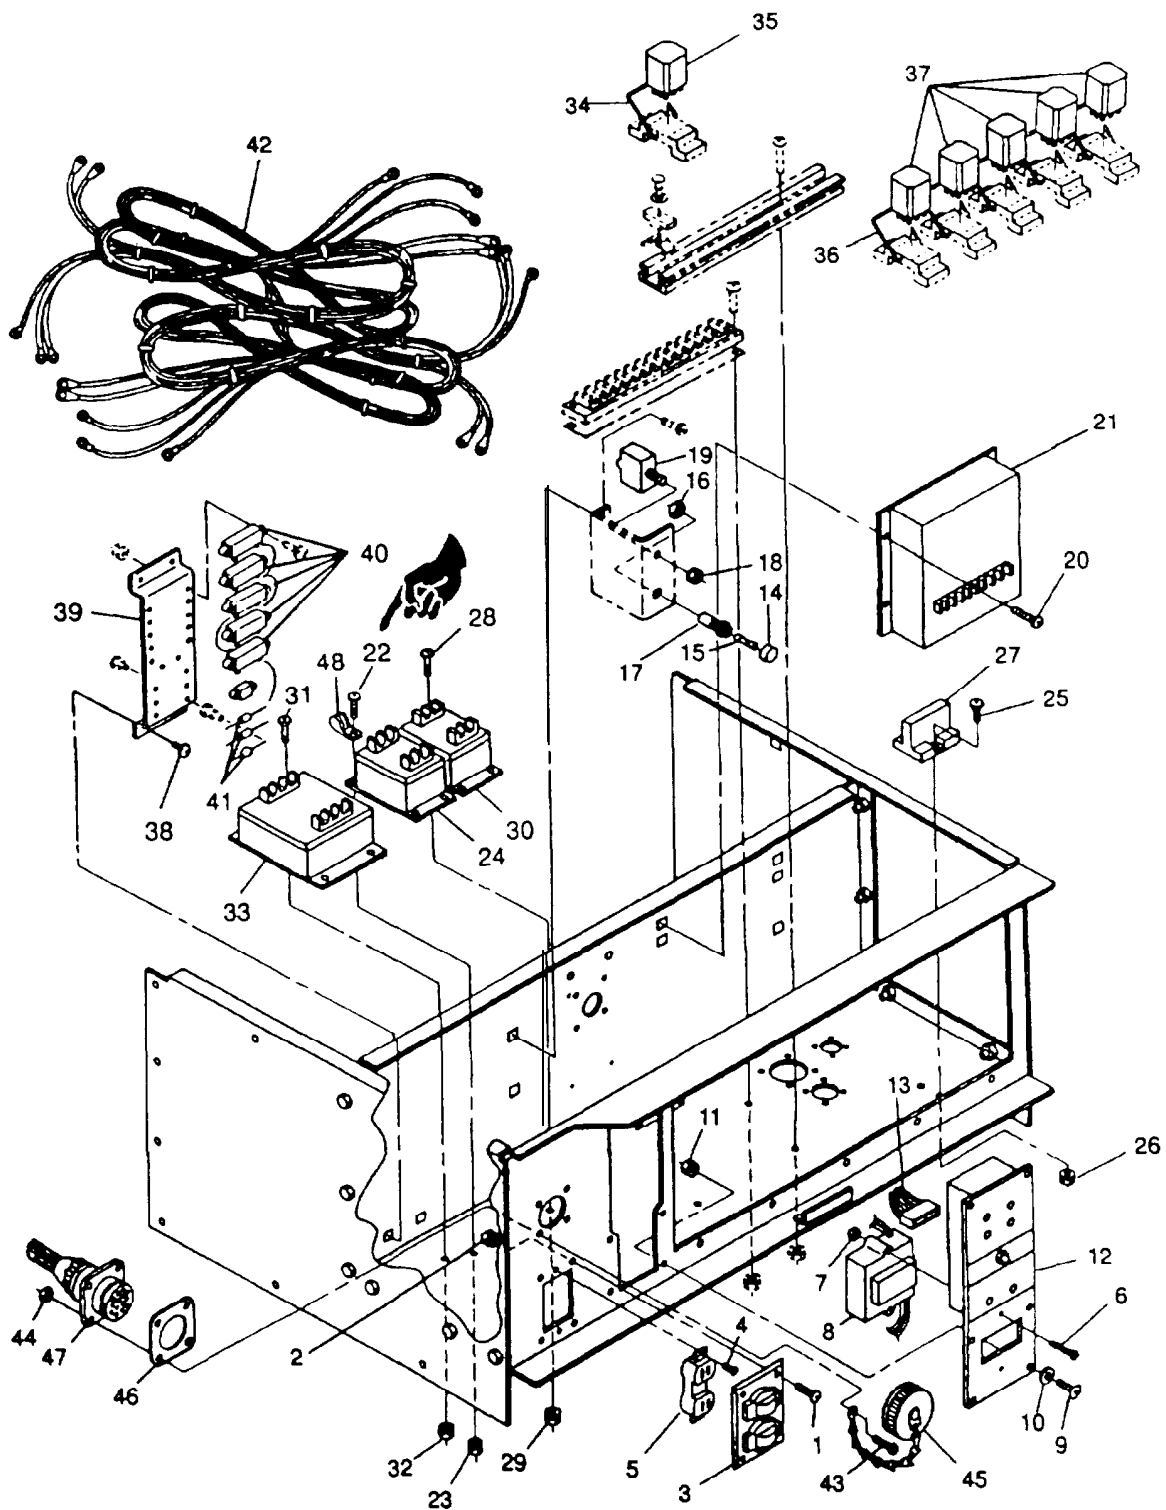

FIGURE 2-11. Control Box Components
- d. Tag and remove frequency transducer (24, FIGURE 2-11) electrical leads.
- e. Open load terminal board access door and remove screws (22), nuts (23), cable clamp (48), and frequency transducer (24).
- a. Install frequency transducer (24, FIGURE 2-11) with screws (22), and nuts (23)
- d. Tag and disconnect shunt (27, FIGURE 2-11) electrical leads.
- g. If no repair is needed, connect electrical leads to shunt (27) and remove tags
- e. Open storage box access door to gain access to remove screws (25), nuts (26), and shunt (27)
- a. Install shunt (27, FIGURE 2-11) with screws (25) and nuts (26)
- d. Tag and disconnect overvoltage relay (30, FIGURE 2-11) electrical leads.
- e. Open load terminal board access door to gain access to nuts (29) and remove screws (28), nuts (29), and overvoltage relay (30).
- a. Install overvoltage relay (30, FIGURE 2-11) with screws (28) and nuts (29).
- d. Tag and disconnect short circuit/overload relay (33, FIGURE 2-11) electrical leads.
- e. Open load terminal access door to gain access to nuts (32) and remove screws (31), nuts (32), and short circuit/overload relay (33).
- a. Install short circuit/overload relay (33, FIGURE 2-11) with screws (31) and nuts (32).
- c. Inspect crank disconnect switch (35, FIGURE 2-11) for cracks. Ensure that switch is seated properly.
- d. Release wire clip (34, FIGURE 2-11) and remove crank disconnect switch (35) by gently pulling straight up from socket.
- a. Install crank disconnect switch (35, FIGURE 2-11) and snap wire clip (34) over switch.
- d. Locate suspected defective relay (37, FIGURE 2-11 ). Release wire clip (36) and remove relay (37) by gently pulling upon relay.
- a. Install relay (37, FIGURE 2-11) and secure with wire clip (36).